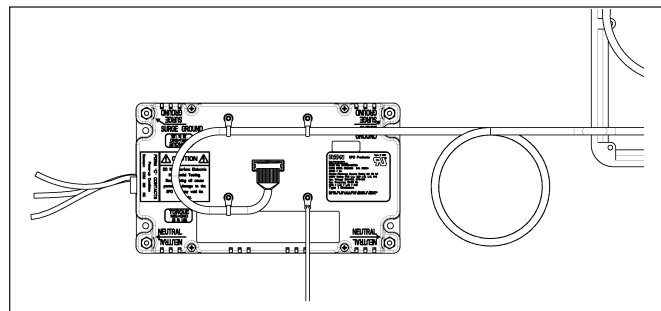

Figure 17. RDP to SPD connection
- Connect the RDP cable to the SPD. Use tie wraps (already on the SPD) to secure the cable to the SPD. See Figure 17. Cable can be routed as a right or left dress.